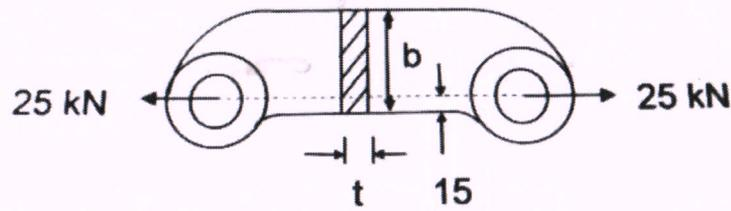

Fig. 7
- 5 a) For a tubular strut 2.25 m long having outside diameter and inside diameter as 37.5 mm (10) and 32.5 mm respectively, loaded through pin joint at both ends; compare the crippling loads given by Rankine's and Euler's formula. Take Rankine's constant, $a = 1/7500$, Modulus of elasticity, $E=200$ GPa and Yield stress = 315 MPa
- b) An offset link is loaded as shown in Fig.7 . Determine the cross-sectional dimensions of (10) the link, where $b = 4t$ and the maximum normal stress is to be limited to 100 MPa.